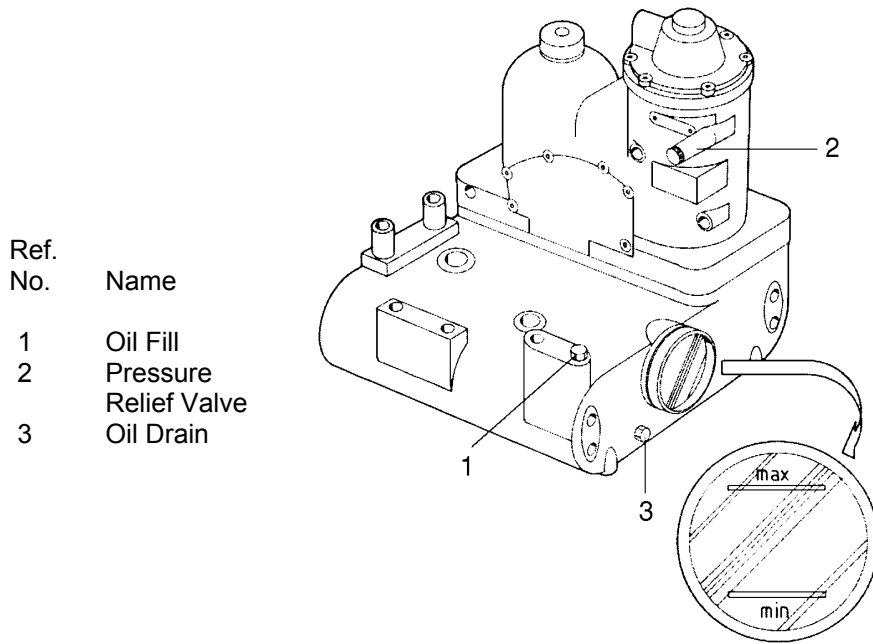

Figure 5-4 – OIL LEVEL GAUGE, OIL FILL AND OIL DRAIN
PROCEDURE FOR CHECKING OIL LEVEL (Figure 5-4, page 30) - Check the oil level when the compressor is shutdown and the oil/air mixture has separated. The oil should be visible between the min. and max. range, shown in Figure 5-4, page 30. If the oil level is above the max. range, the oil must be drained. If the oil level is below the min. range, oil must be added.
DO NOT OVERFILL. The quantity required to raise the oil level from the min. line to the max. line, (See Figure 5-4, page 30), is two (2) quarts (Figure 5-2, page 26). Repeated addition of oil between oil changes may indicate excessive oil carryover and should be investigated.
7. Add oil, if necessary, to bring level to the max. range on the oil level gauge (Figure 5-4, page 30).
OIL LEVEL GAUGE (Figure 5-4, page 30) - The oil level gauge indicates the amount of oil in the air/oil reservoir. Read oil level only when the unit is shut down and the air/oil mixture has separated. Add oil only when the oil level is below the min. range on the site glass. Drain oil only when the oil level is above the max. range on the site glass.